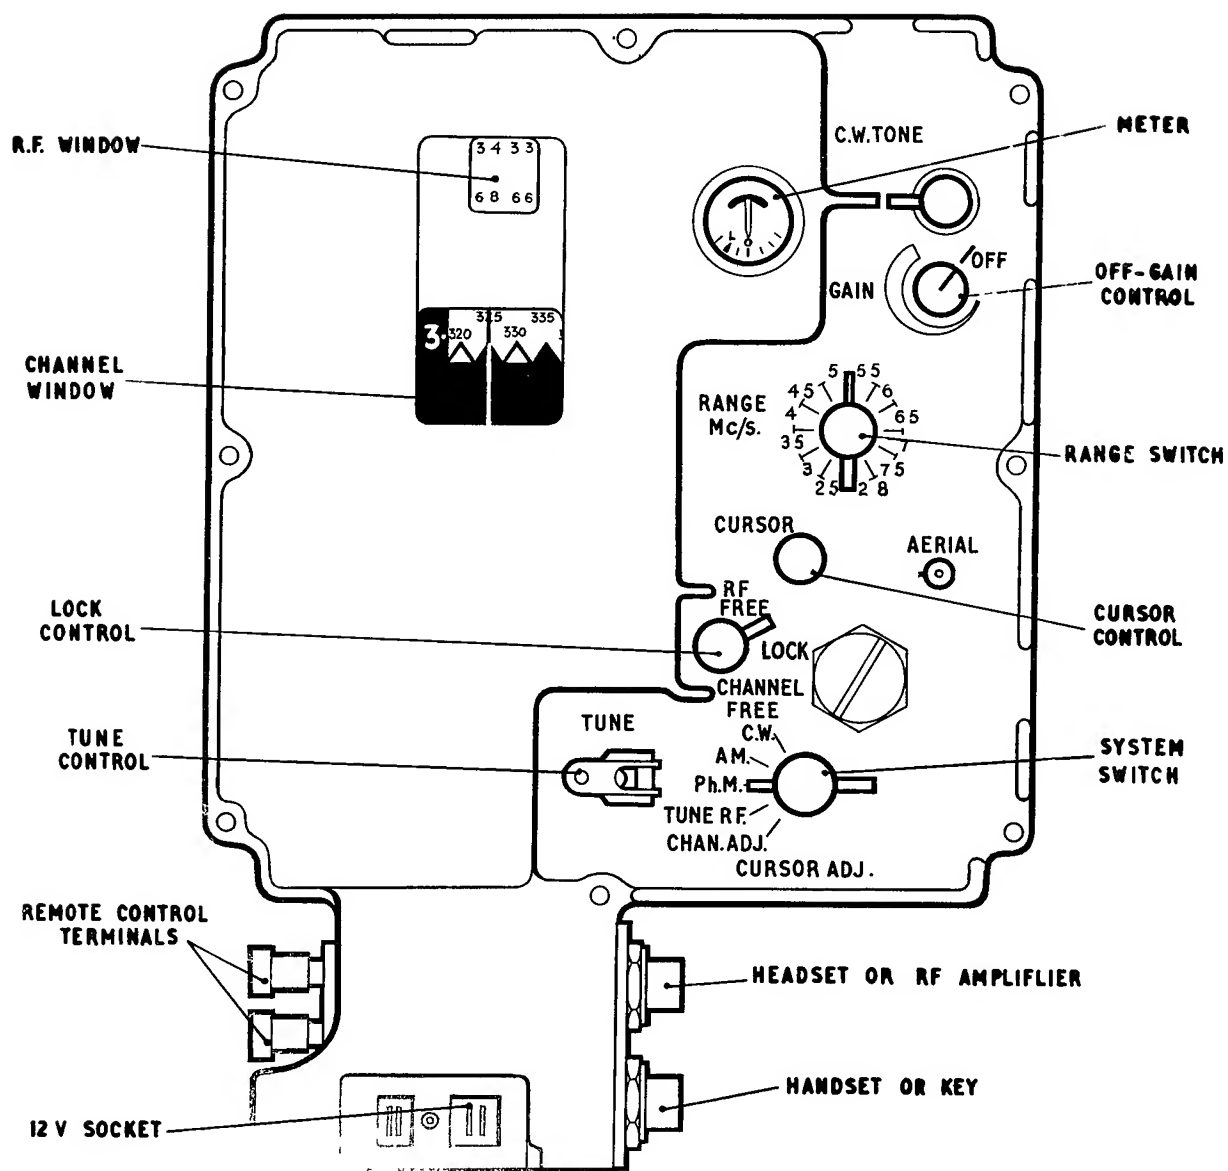

FIG. 15 TR A13 CONTROLS
- (1) Turn the TR A13 system switch to Ph ~~M~~, AM or CW. See fig. 15.
- (2) Turn the TR A13 OFF/GAIN control to ON. This combined ON-OFF/GAIN control also adjusts the audio level in the headgear fitted to the TR A13.
- (3) As the TR A13 is switched ON the meter at the top of the panel should indicate approximately 'O' or above. If it does not, change the battery or batteries for fully charged replacements. The 'L' mark on the scale indicates a battery voltage of 10 volts, below which the battery should be changed.
- (4) In the HP station the meter indicates the state of charge of both batteries. If the reading is low, change both batteries.
- (5) During operation, especially on transmit, frequently check that the battery voltage indicated on the TR A13 meter has not reached the 'L' position. If the voltage falls to 'L' the battery or batteries should be changed, or float charging should immediately be commenced. See pages 47 and 48.
Fig. 15 indicates the controls on TR A13. Figs. 16A and 16B on pages 30 and 31 show the sequence of tuning.
- (14) Turn the LOCK control to the RF FREE position.
- (15) Turn the system switch to the TUNE RF position. The transmitter is now ON but is not radiating from the antenna.
- (16) Ensure that when the TUNE control on TR A13 is rocked a small amount in either direction, the meter pointer moves in the same direction as the top of the knob and the RF scale. If it does not, vary the TUNE control slightly in either direction until a point is found where it does.
- (17) Adjust the TUNE control on the TR A13 until the meter indication is centre-zero.
- (18) Move the LOCK control to the LOCK position.
- (19) Turn the system switch on TR A13 to the required position, Ph.M, AM or CW
- (20) Connect headset, handset or key to TR A13 (see fig. 15) and adjust the tuner RF in accordance with section 19 below.